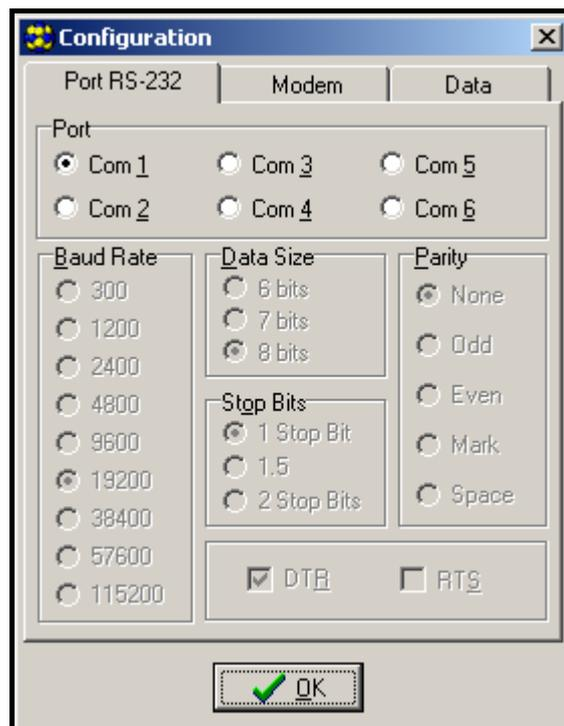

Figure 8.
2. Enter the options of module communication settings by clicking on the  icon (or through the **Communication** →**Configuration** menu) and select the port through which the computer connects with the module RS-232 port (see: *Fig. 8*).